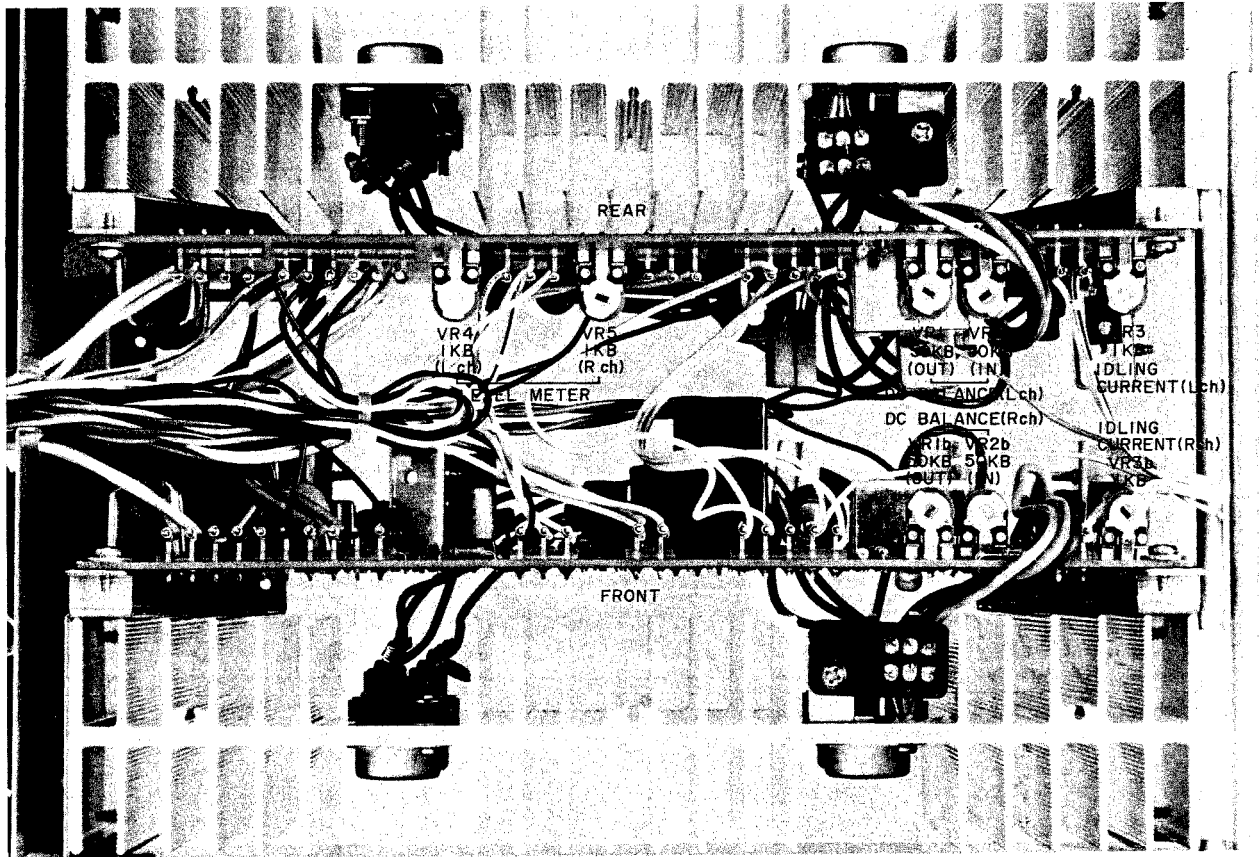
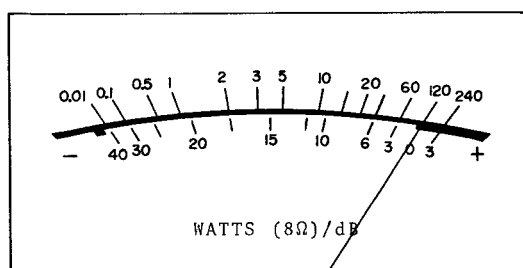

Fig. 14 Main Amp Adjust Point
Fig. 18 Level Meter
1. Idling Current Adjustment (Refer to Fig. 14, 15)
2. DC Balance Adjustment (Refer to Fig. 14, 16)
3. Level Meter Indication Adjustment (Refer to Fig. 14, 17, 18)
- 4) Now, adjust VR4 (Right) on the Main Amp P.C board (see Fig. 14) until each POWER LEVEL meter deflects to the mark "120". (see Fig. 18)